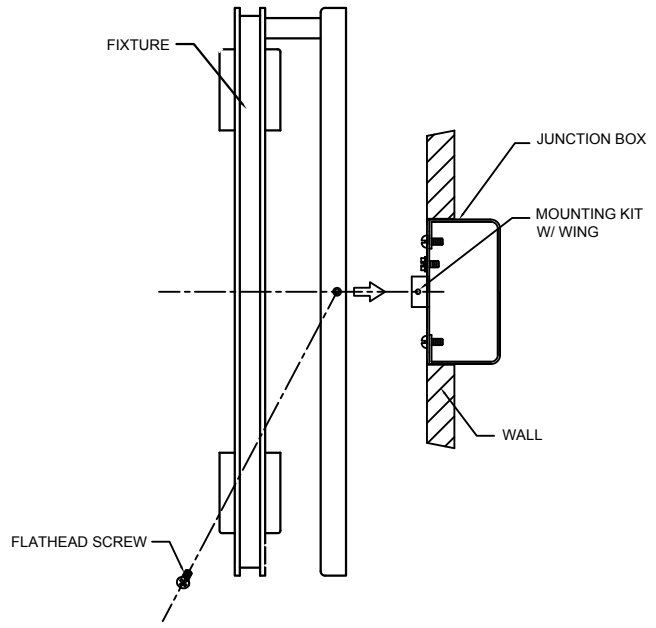

FIGURE-02
4. Attach the fixture to the mounting plate with wing and secure it with flathead screws. (See Figure-02)